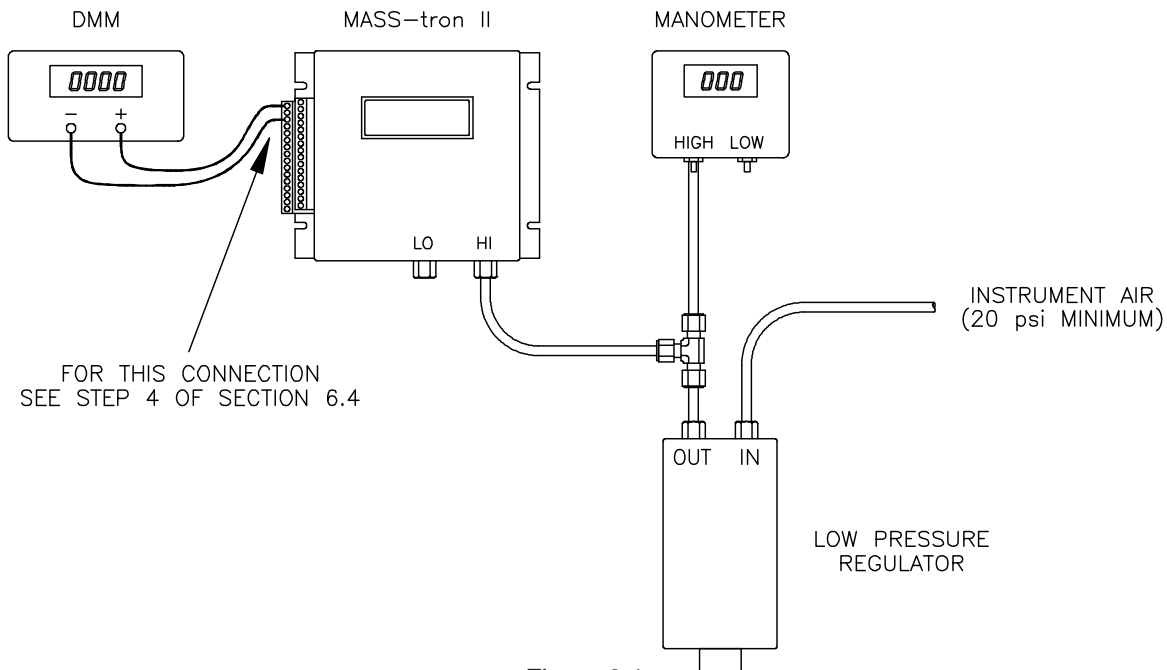

Figure 6.1
4. Prepare test equipment as shown in Figure 6.1.